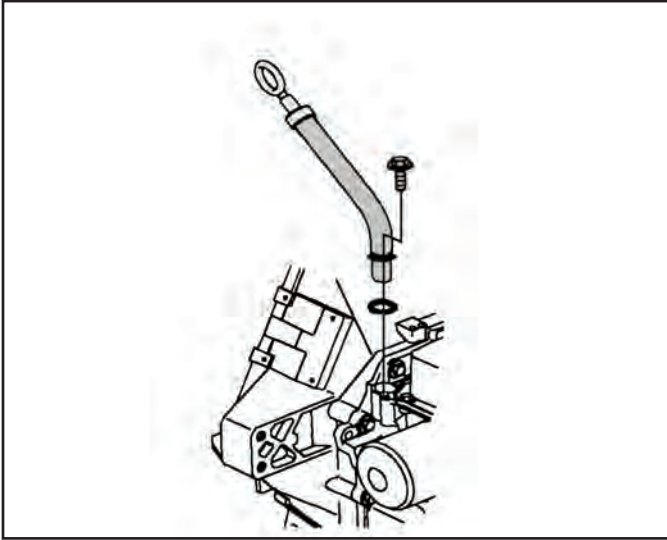

Figure 227
69. Carefully press the tube into the case (See Figure 227).